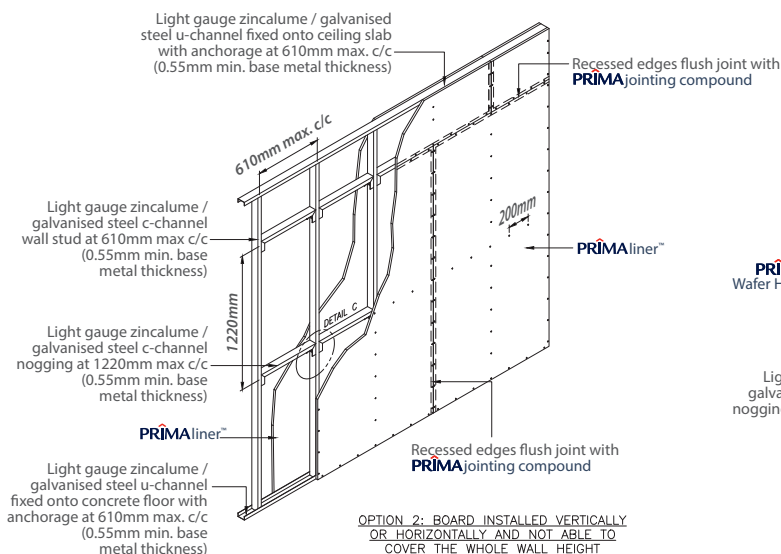

Figure 3b: Frame & Board Installation Layout
- If the full PRIMALiner™board cannot cover the wall height, then another board need to be cut to the required dimension and install at top in staggered pattern. Refer to Figure 3b for frame & board installation layout.